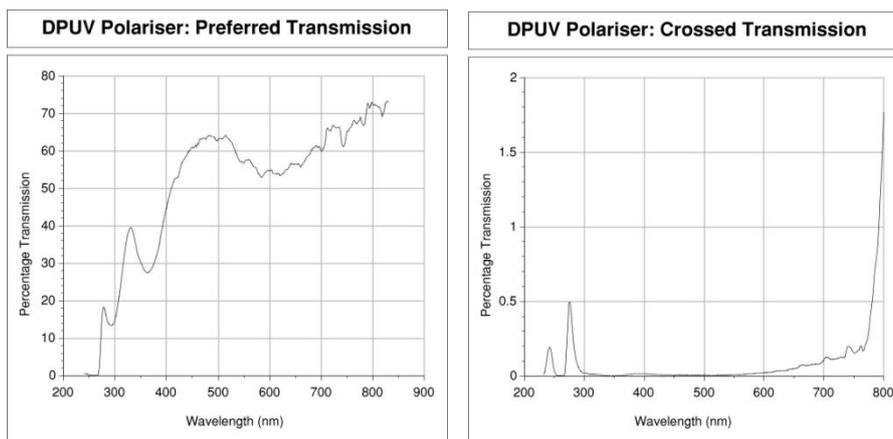

Figure 6.1: fluorescence polarization transmission curves
300 nm to >600 nm+ for DPUV polarisers (see Figure 6.1 for transmission curves).
The DPUV polarisers supplied with your FP.1 accessory provide a good general coverage of the visible and near UV spectrum (see Figure 6.1). They are also well matched to the end-window PMTs currently shipped with the FP.1 accessory. Alternative collection pieces may be developed to suit different experimental requirements. For example: extended UV coverage, enhanced visible transmission, or better performance using interference filters. Such developments may have implications for the detectors used (see item 4 below).